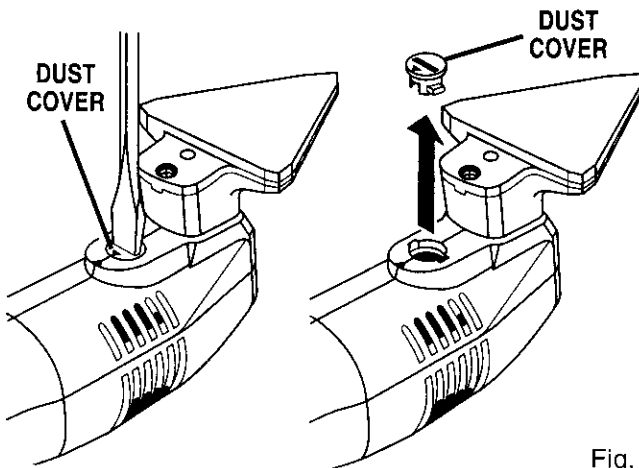

Fig. 3
- Using a medium flat blade screwdriver, remove the dust cover by aligning the arrow on the Dust Cover with the notched arrow on the base of the sander. See Figure 3.